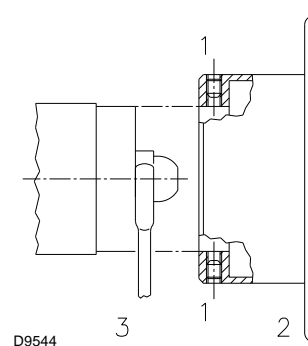

Fig. 15
- fitting the wrench through the central hole in the flame stability disk or loosen screws 1)(Fig. 15);
- remove disk 2)(Fig. 15) and replace the nozzles using the wrench 3)(Fig. 15).